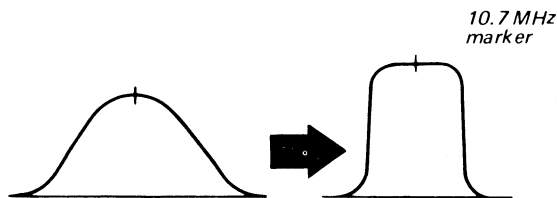

Fig. 3-5 Response curve
2. Turn the core of fm i-f transformer (IFT 201, IFT 202) and discriminator transformer (IFT 203) to obtain the maximum amplitude response curve shown in Fig. 3-5.